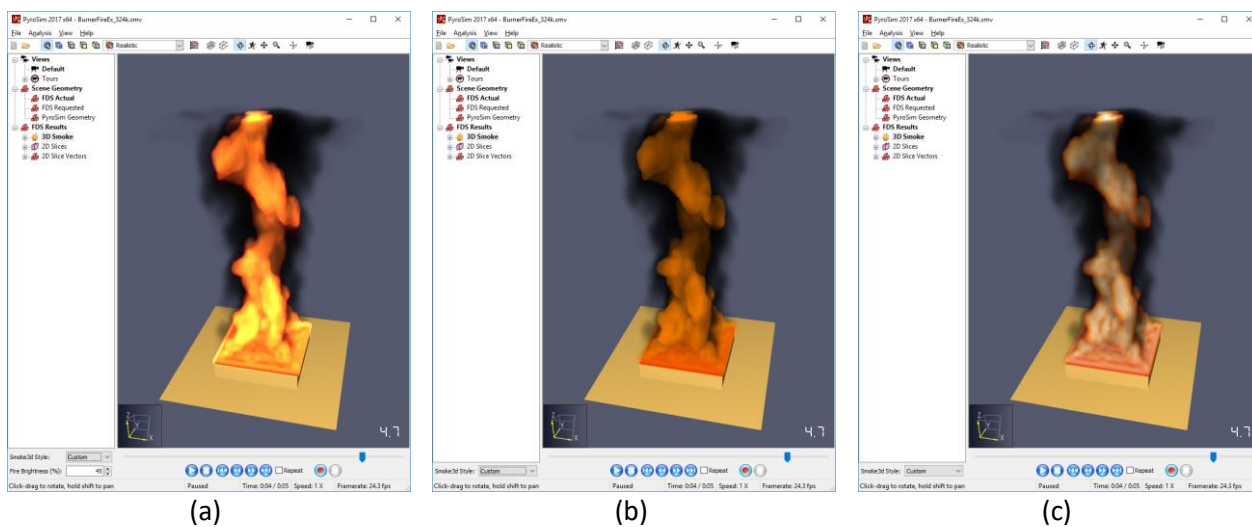

Figure 7-10: Comparison of smoke/fire property presets with smoke opacity set to 25% (a) Default (b) Smoke Default (Pre-6.4.4) (c) Smokeview Default
- **Preset:** Specifies a pre-defined set of properties to be applied to the values in the dialog. The following presets are available and are demonstrated in Figure 7-10: